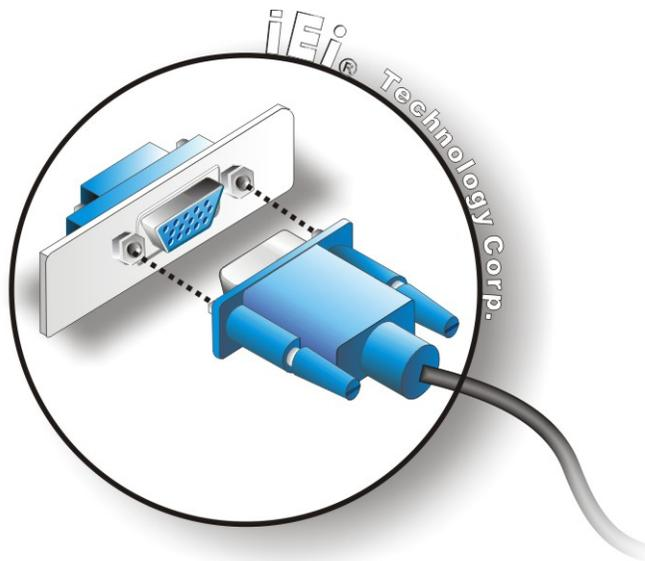

Figure 4-21: VGA Connector
- Step 3: Insert the VGA connector** Once the connectors are properly aligned with the insert the male connector from the VGA screen into the female connector on the IMB-Q670. See **Figure 4-21**.